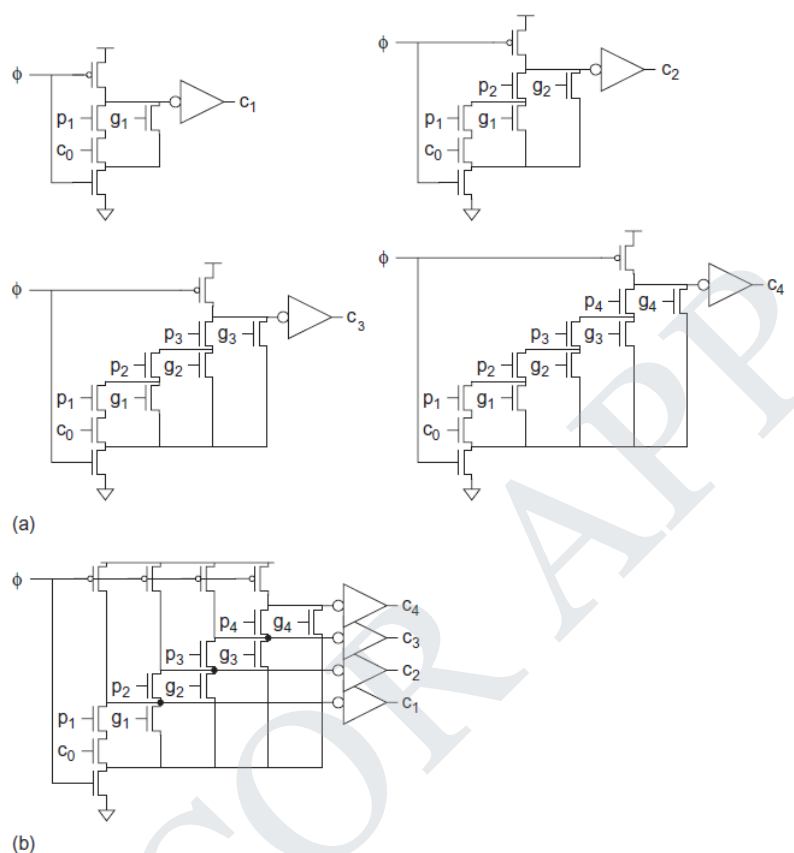

FIGURE 9.44 Conventional and MODL carry chains
9.44(a). Notice that each output is a function of the less significant outputs. The more compact MODL design shown in Figure 9.44(b) is often called a Manchester carry chain.